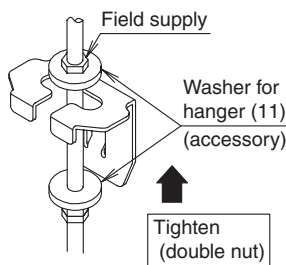

Fig. 6
- (1) Install the indoor unit temporarily.
- Fix the hanger to the hanging bolt. Make sure to securely fix the hanger with the nut and the washer for hanger (11) from the upper and lower side. (Refer to Fig. 6)